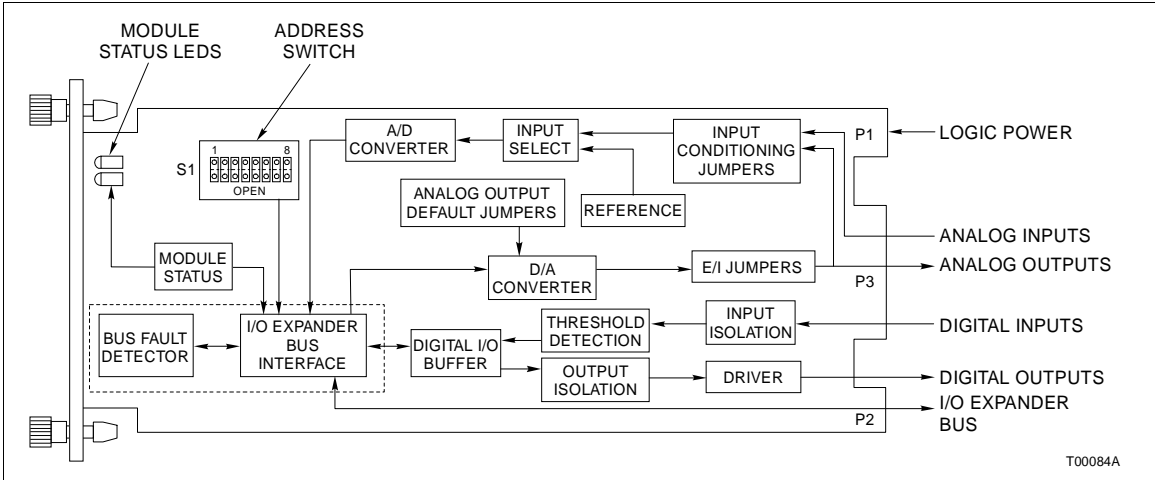

Figure 2-1. Block Diagram
The MFP communicates with its I/O modules on a parallel I/O expander bus as shown in Figure 1-1. It references the address set by I/O address dipswitch (S1). Figure 2-1 is a block diagram of the CIS and QRS modules.
Function Code (FC) 79 in the MFP configuration accesses the CIS or QRS module on the I/O expander bus. It also allows the MFP to automatically read input data or status data from the I/O module, and write output data to it. This data is output by buffer circuits to the I/O expander bus interface (Fig. 2-1). The I/O module address in FC 79 must be the same as the address set on I/O address dipswitch (S1).
Logic power (+5 VDC and  $\pm 15$  VDC) drives the CIS and QRS circuits. It connects through the top 12-pin card edge connector (P1) shown in Figure 2-1. P3 supplies +24 VDC to operate the analog output circuits.